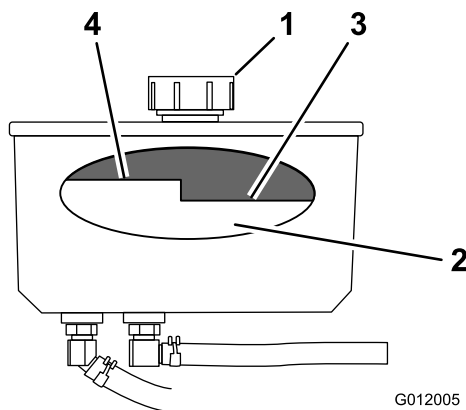

Figure 80
4. Clean the area around the cap and filler neck of the hydraulic tank (Figure 80).
5. Remove the cap from the filler neck. Look inside to check the fluid level in the reservoir (Figure 80).
Note: The fluid level should be below the hot level of the baffle, when the fluid is warm (Figure 80).